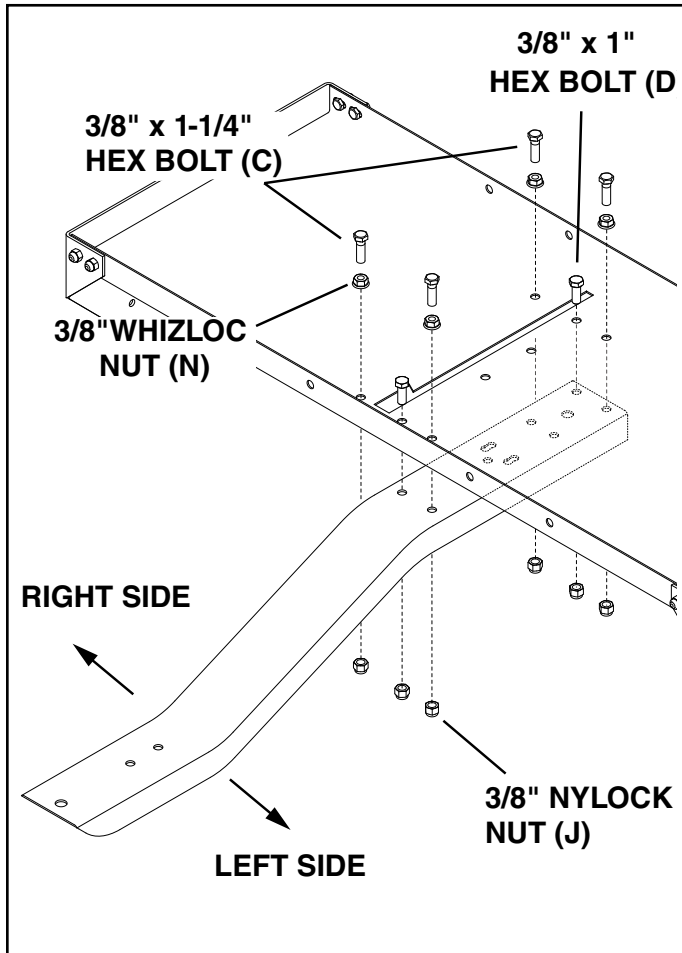

FIGURE 8
IMPORTANT: Make sure the tray is turned so that the locking notch is at the front as shown in figure 8.
11. Assemble the tongue to the tray using two 3/8" x 1" hex bolts (D), two 3/8" x 1-1/4" hex bolts (C), two 3/8" whizloc nuts (N), and four 3/8" nylock nuts (J) as shown in figure 8. **Tighten.**
12. Assemble two 3/8" x 1-1/4" hex bolts (C), two 3/8" whizloc nuts (N) and two 3/8" nylock nuts (J) to the holes on the other side of the slot in the tray. **Tighten.** See figure 8.